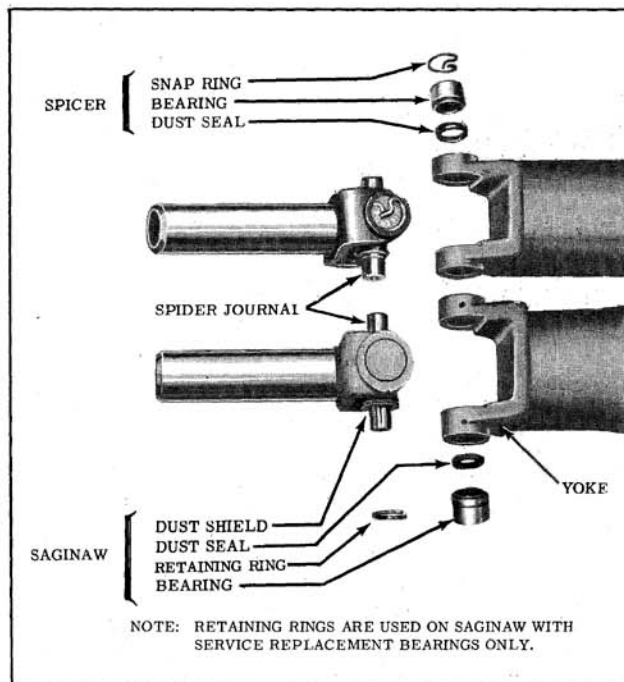

Fig. 10-71 Propeller Shaft Identification
Both Saginaw and Spicer propeller shaft assemblies are used. Refer to Fig. 10-71 for identification.
**Saginaw Type (Fig. 10-71)**
#### Spicer Type (Fig. 10-71)